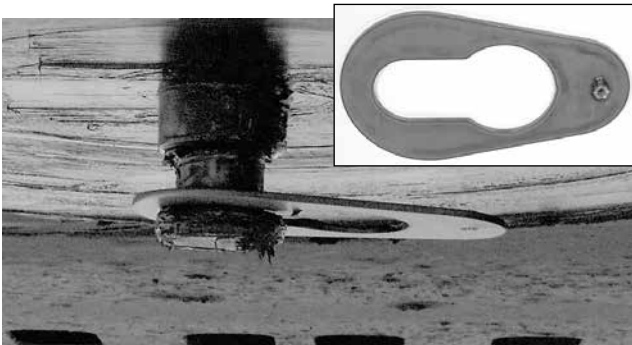
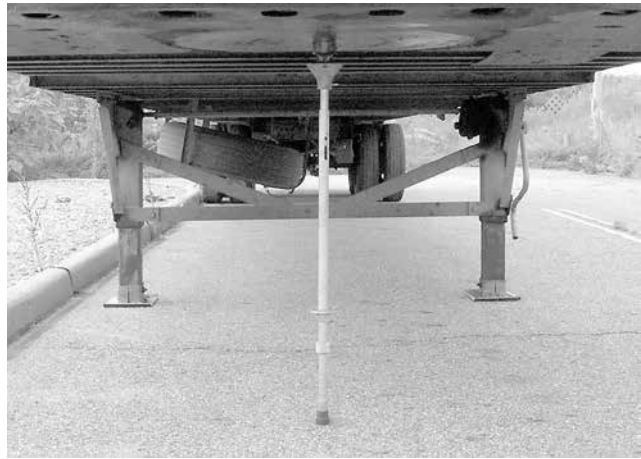

Figure 17: Kingpin adapter
Figure 18: Kingpin extender
- A. If this sightline is free from under-trailer obstructions that would interfere with a measurement (i.e., landing legs, trailer frame, tool boxes, etc.), then the kingpin adapter (Figure 17) can be used to make the measurement in Step 5 on page 14.
- B. If this sightline is obstructed, then the kingpin extender or pogo stick (Figure 18) must be used to lower the connection for the measurement in Step 5 on page 14.
2. Place kingpin adapter (Figure 17) or kingpin extender (Figure 18) onto the kingpin.